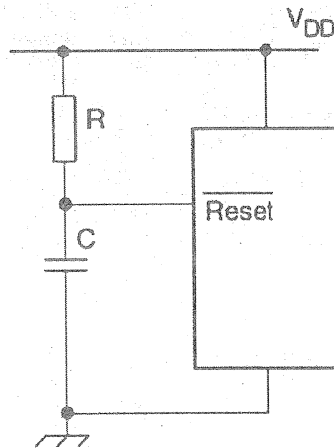

Figure Q1.
- d) For the circuit in figure Q1, what is the purpose of RC circuit that is connected to the RESET input of the microcontroller?